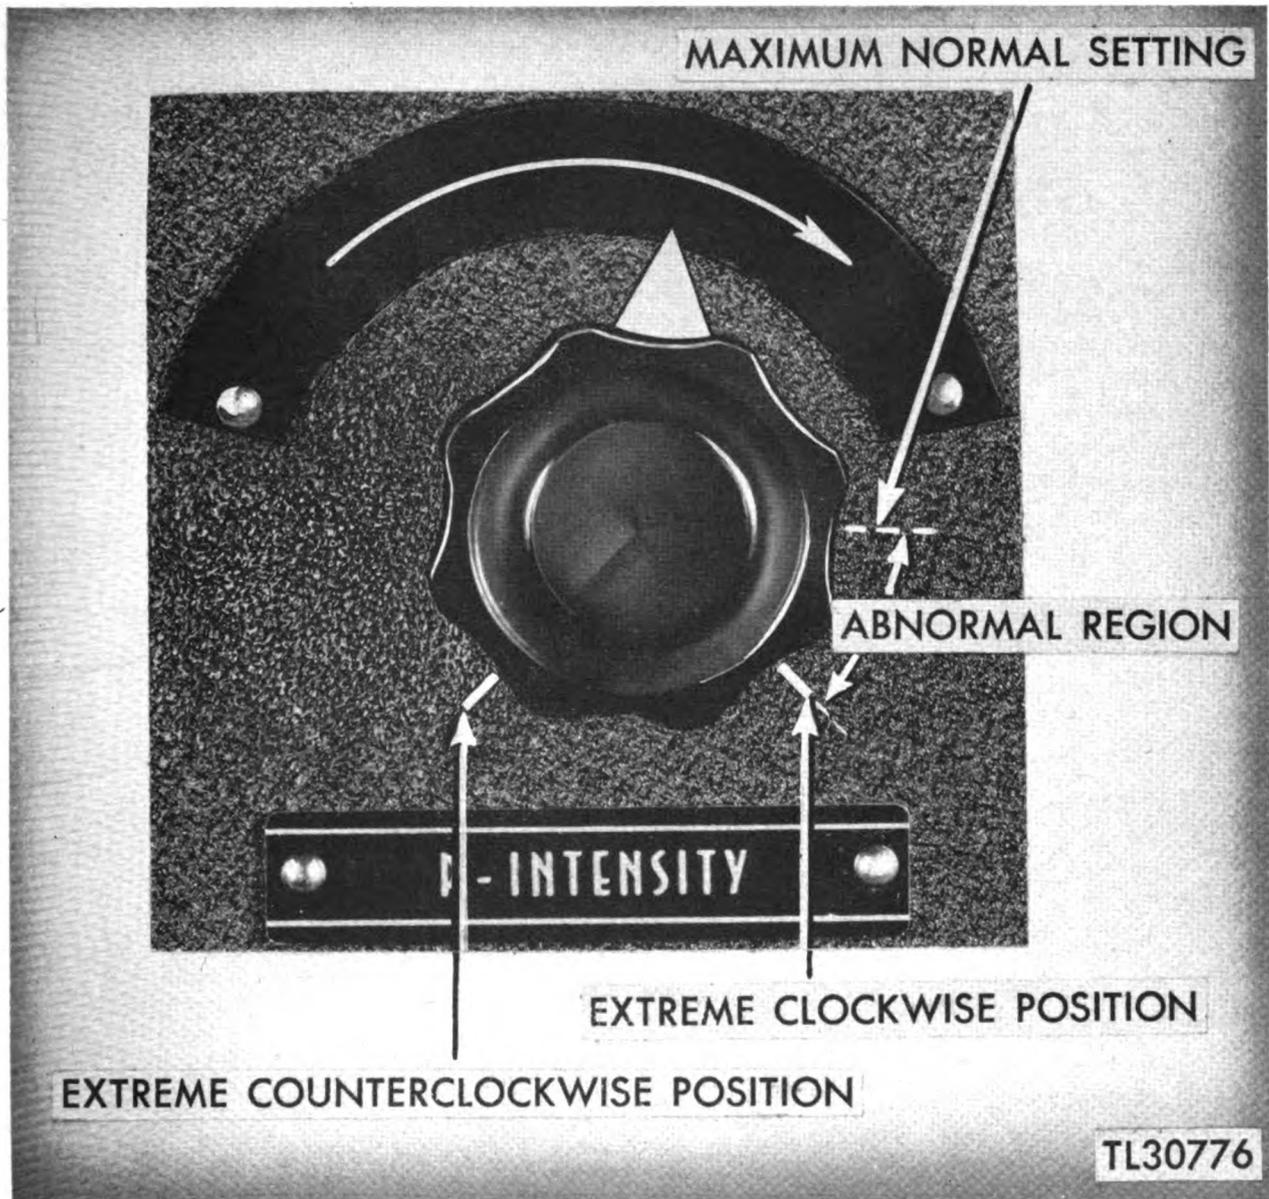

Figure 59. P-Intensity control.
**HOW TO OBTAIN THE INFORMATION.** Since there are no markings on the control, estimate the fraction of a turn as accurately as possible. In order to simplify this step, place white paint marks on the knob and on the panel as shown in figure 59.